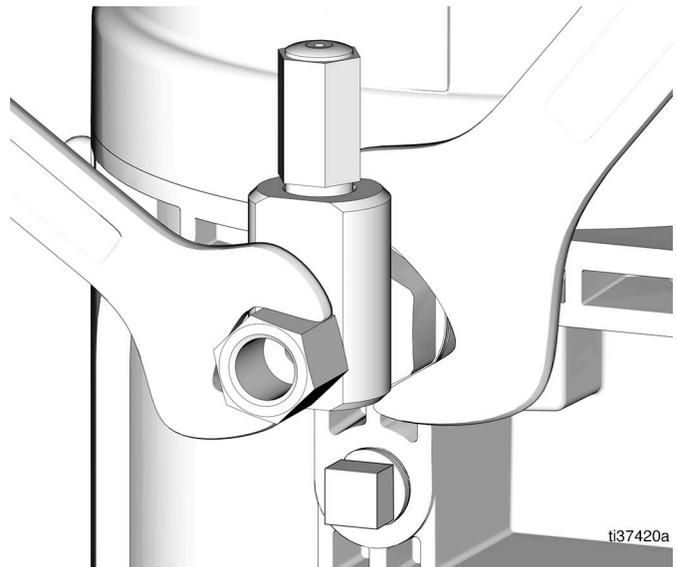

FIG. 22
3. Tighten the pump element fitting using two wrenches working in opposite directions (FIG. 22).